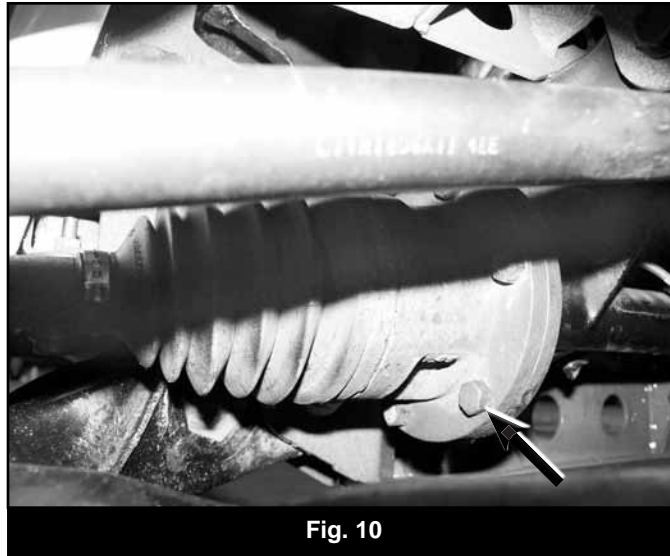

Fig. 10
24. Disconnect the CV axles from the differential by removing the mounting flange bolts, keep bolts for reinstallation (Fig 10).